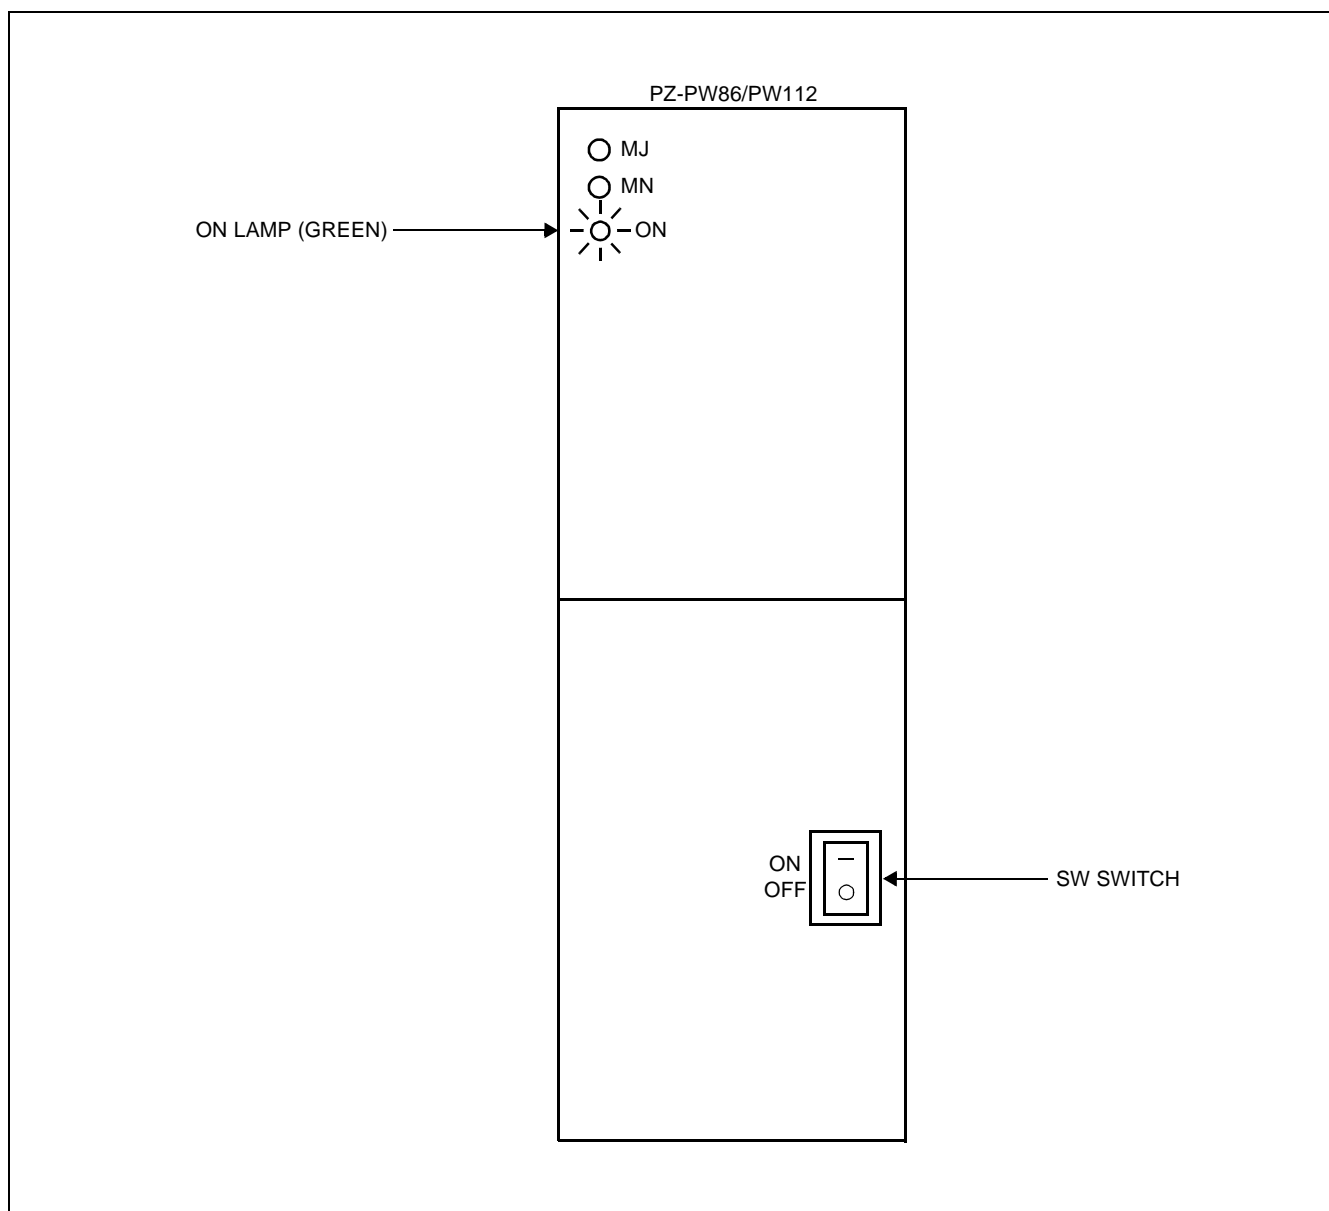

Figure 009-1 PZ-PW86/PZ/PW112 Card Lamp Indication
- (1) For testing, turn on "SW1" switch on the PZ-PW86/PZ-PW112 card. Make sure that "ON" lamp (green) is lit. See Figure 009-1.
- (2) Turn off "SW1" switch.